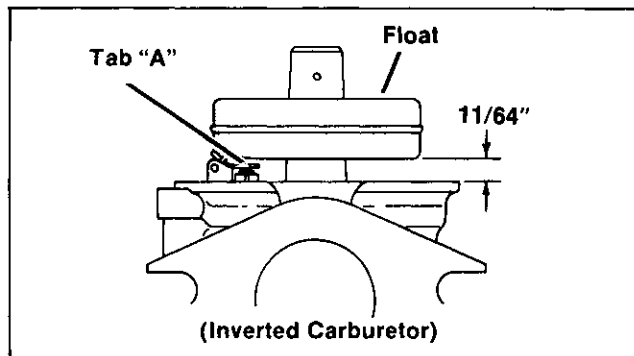

Figure 4-4. Setting Float Level
2. **Set float level.** Invert carburetor—with float resting lightly against inlet needle in its seat, there should be  $11/64"$  ( $\pm 1/32"$ ) clearance between machined surface of casting and free end of float (side opposite needle seat). Adjust by bending float tab "A" with a small screwdriver. See Figure 4-4.